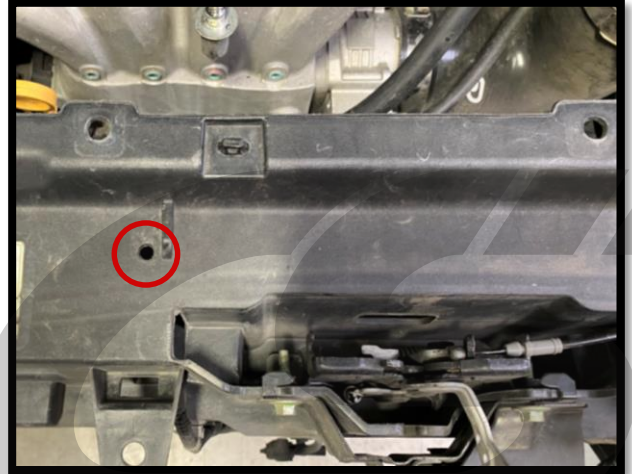

Figure 11d
- g) The post-pump fuel filter will mount to the underside of the radiator cowl/core support. Locate the OEM hole to the left of the hood latch. This is one of the holes that will be used for mounting. Location circled in red in **Figure 11d**.